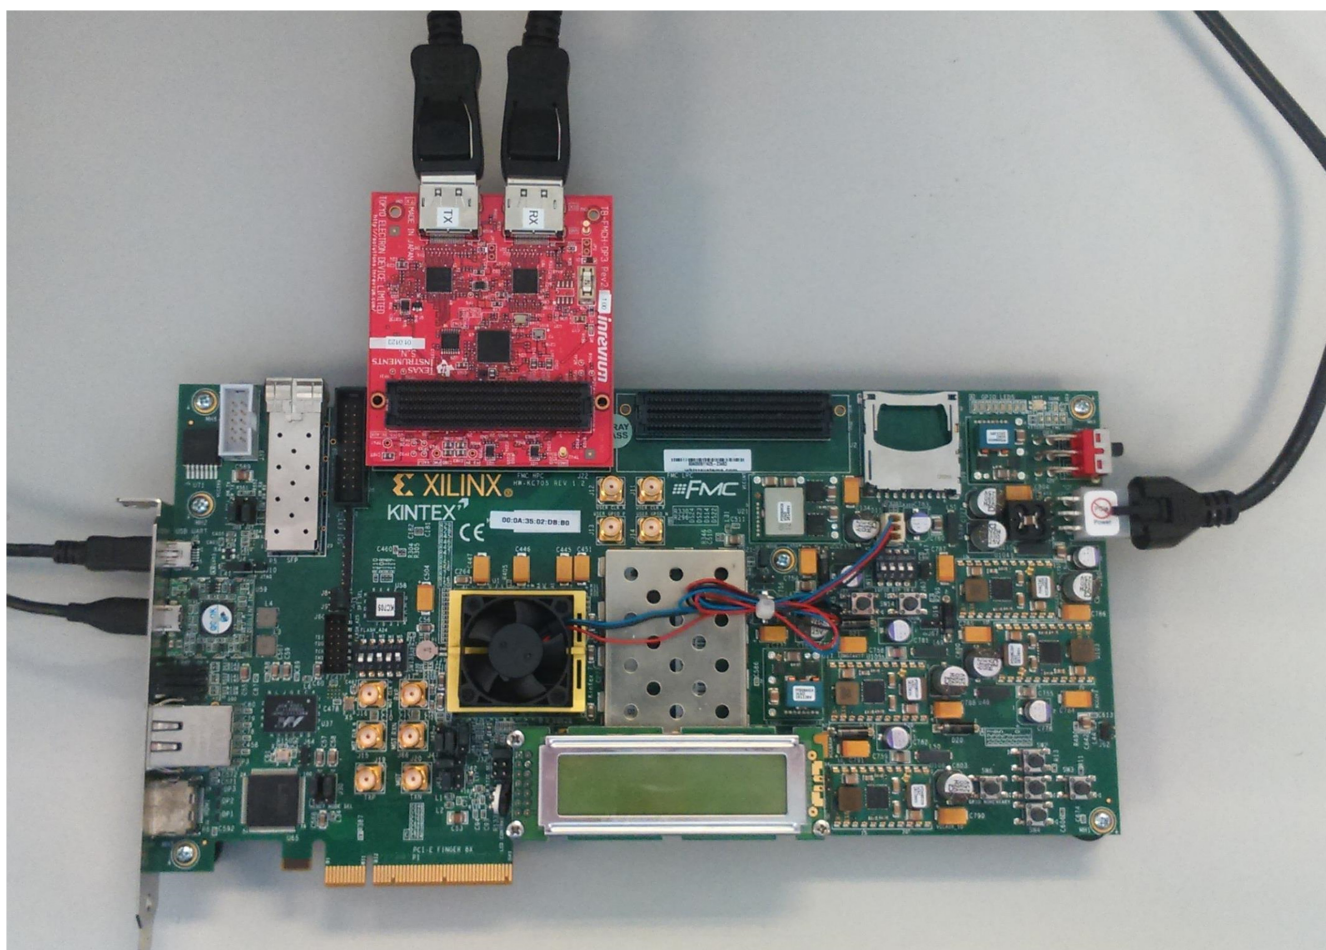

Figure 5-1: KC705 Board Setup
4. For the pass-through or TX only applications, connect a DP cable from the TX port of the TED TB-FMCH-DP-3 module to a monitor, as shown in Figure 5-1.
5. For the pass-through or RX only applications, connect a DP cable from the RX port of the TED TB-FMCH-DP-3 module to a DP source (GPU), as shown in Figure 5-1.